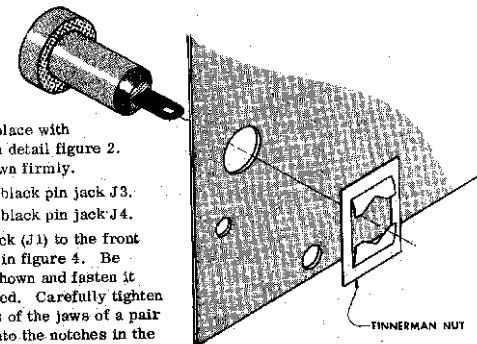
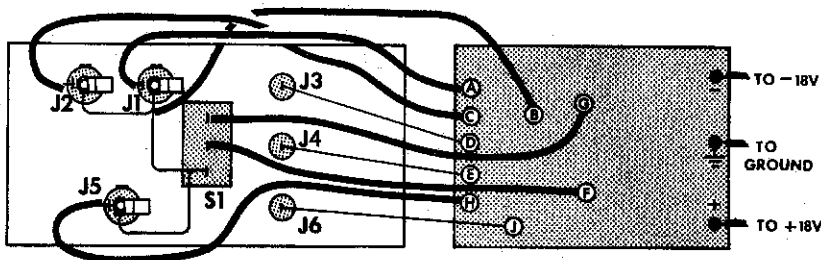

FIGURE 2
FIGURE 4 FRONT PANEL WIRING
- Place a red pin jack (J6) in the hole provided as shown in figure 4 and fasten it in place with a tinnerman nut as shown in detail figure 2. Press the tinnerman nut down firmly.
- Mount a miniature phone jack (J1) to the front panel in the position shown in figure 4. Be sure to orient the jack as shown and fasten it in place with the nut provided. Carefully tighten the nut by putting the points of the jaws of a pair of small diagonal cutters into the notches in the nut and using the cutters as a spanner.
- Using two 4-40 X 1/4 inch machine screws and two 4-40 nuts mount the single pole double throw slide switch S1 as shown in figure 4. Tighten the screws firmly.
- ( ) Using the bare wire provided make the common connections to the bottom lugs of J1, J2, J5 and S1 as shown in figure 4. At the points where a wire passes through a soldering lug it is not necessary to make a tightly crimped connection, simply pass the wire through the hole. **DO NOT SOLDER THE CONNECTION AT J1 AT THIS TIME.**